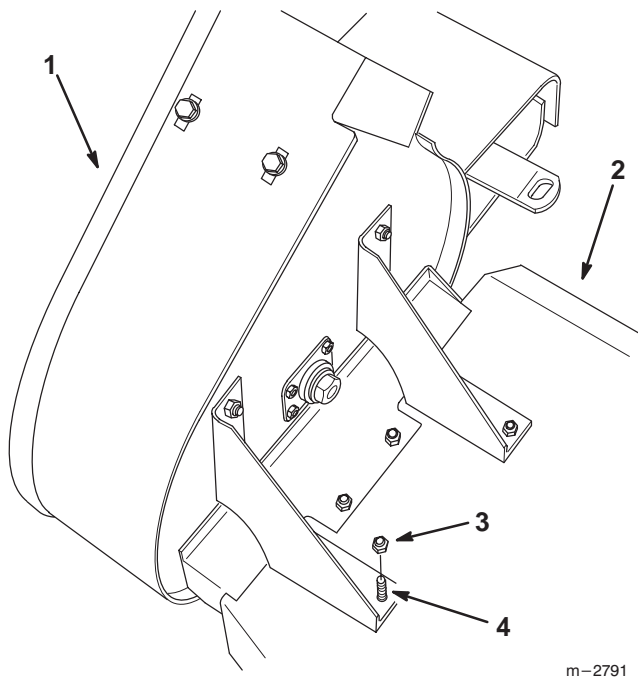

Figure 7
3. Install the blower assembly onto the mower using (6) 5/16"-18 x 3/4" (19 mm) bolts and locknuts (Fig. 7).